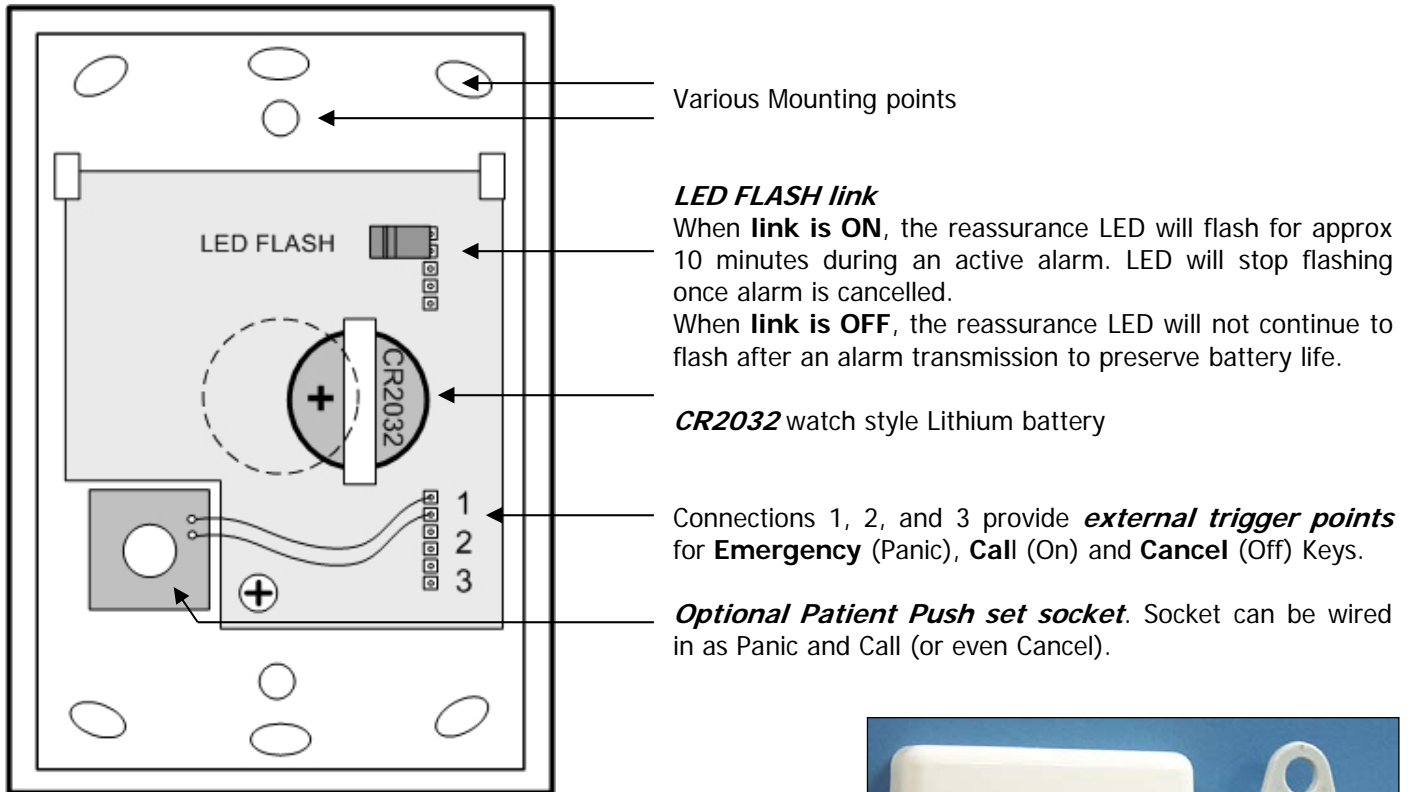

Fig.1 Back of Wireless Call Point
- One fast flash every 2.3 sec for a duration of 10 minutes when ON or PANIC is activated and has not been cancelled (also note that this will only occur when the **LED Flash** pin is linked – **Refer Figure 1**)